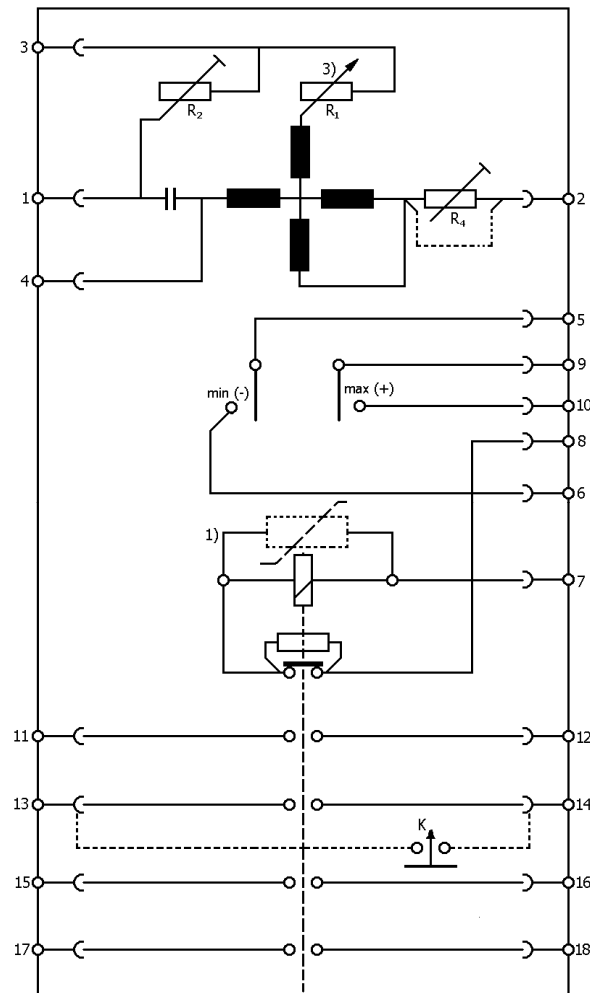

Fig. 1-1 Internal Circuit and Terminal Diagram
3. Read the circuit diagram of the frequency relay (Fig. 1-1) and determine the DC terminals & AC voltage terminals.